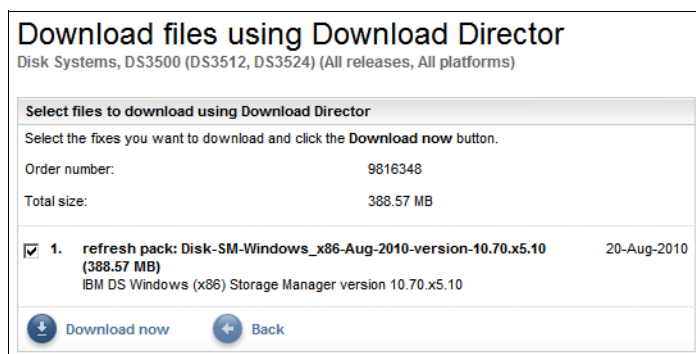

Figure A-12 Download files using Download Director
5. If you choose to download using Download Director, you will see the Download Director window as shown in Figure A-12.